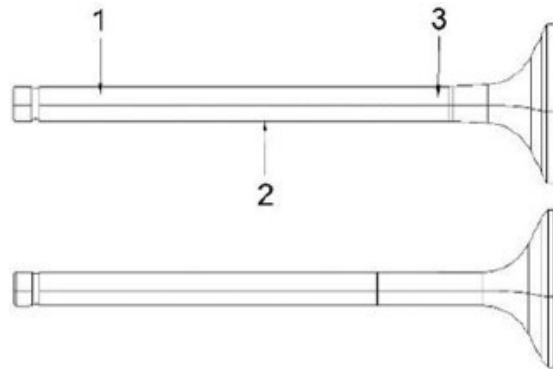

Figure 60. Valve Stem Diameter
3. Use a micrometer to measure the valve stem diameter. Measure the valve stem near the combustion end and near the opposite end (Figure 60). See *Intake / Exhaust Valve and Guide chart* for the service limit.